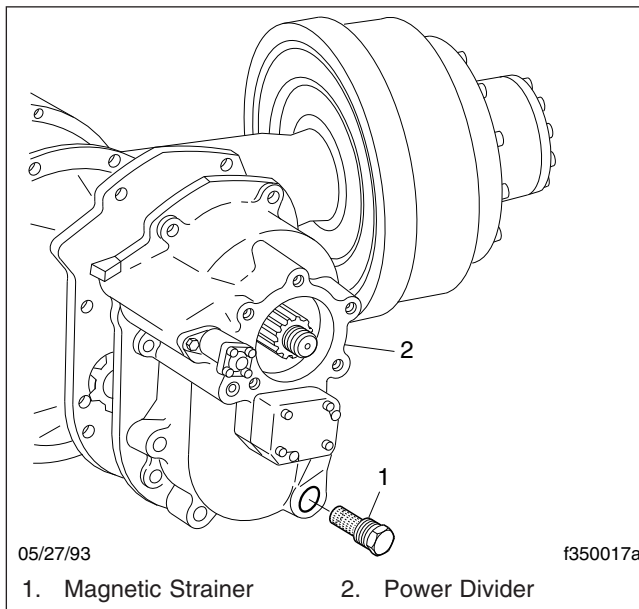

Fig. 5, Dana Spicer Tandem Drive Axle Magnetic Strainer
- 4. At each axle oil change, remove and clean the magnetic strainer, if equipped. See **Fig. 5**.